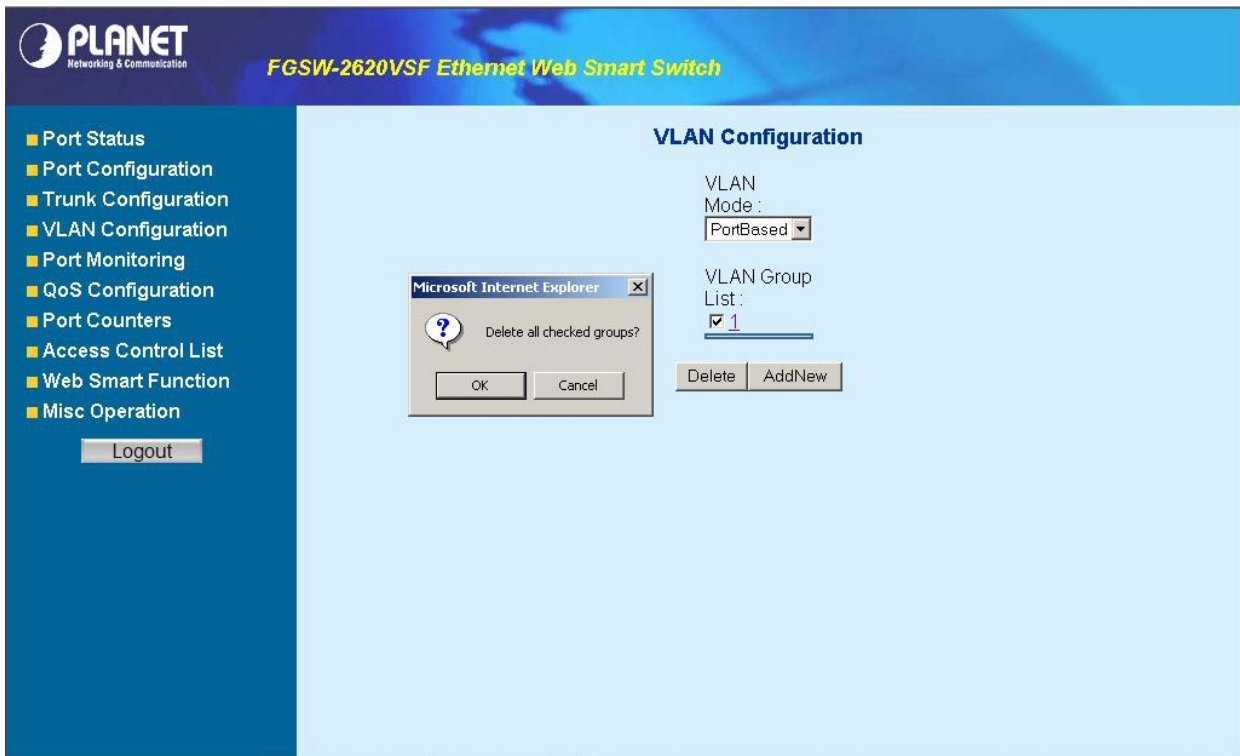

Figure 4-20 Delete Port-based VLAN group Web Page screen
3. Then the **“Delete all checked groups”** window appears, please press **“OK”** to continue the delete VLAN group procedure and the screen in Figure 4-20 appears.